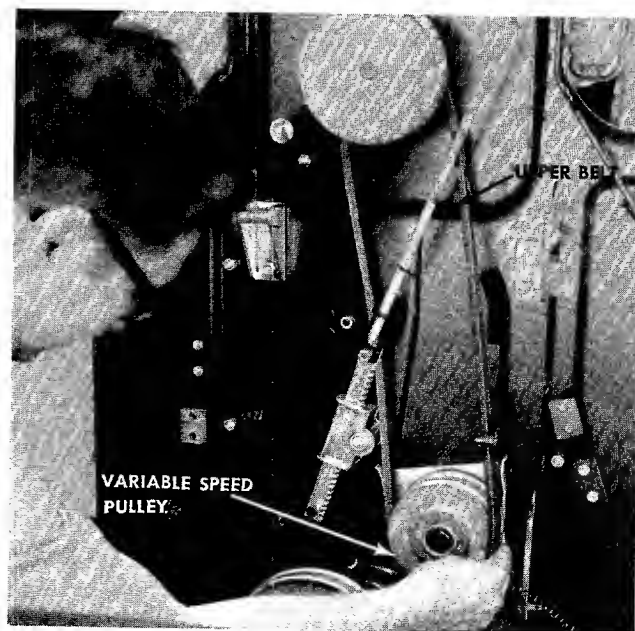

FIGURE 33. REMOVING FROM VARIABLE SPEED
- Step 11. Slide the movable center section of the variable speed pulley away from the rider and remove the upper belt from the variable speed pulley. See figure 33.